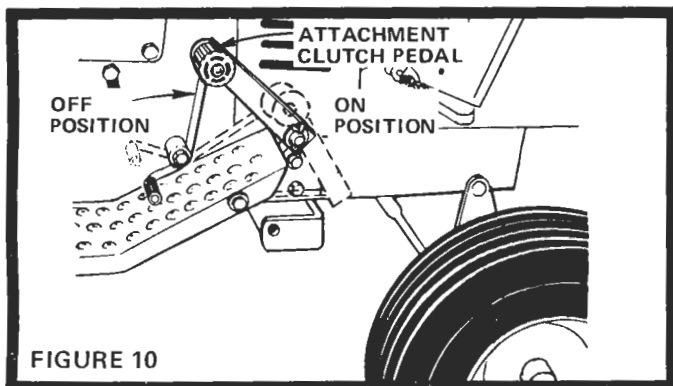
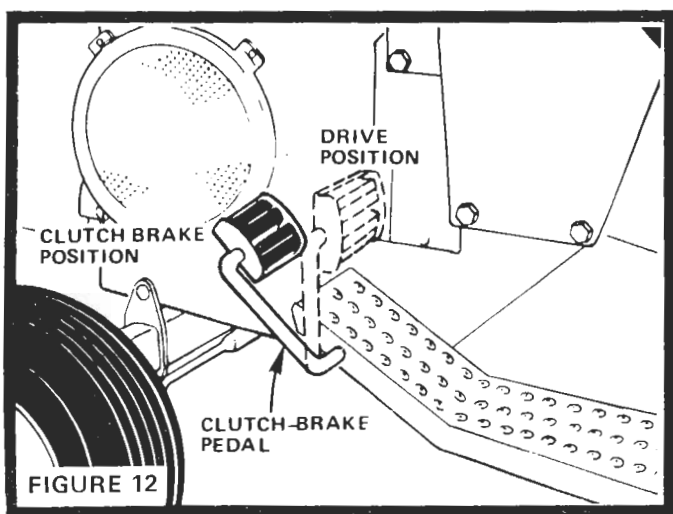

FIGURE 10
FIGURE 12
2. Place Attachment Clutch Pedal in "OFF" position (Fig.10).
5. Push Clutch-Brake Pedal into brake position (Fig. 12).
2. Push Clutch-Brake Pedal down firmly to unlock Parking Brake and hold it in Brake position (Fig. 12).
THIS TRACTOR IS EQUIPPED WITH SAFETY SWITCHES TO PREVENT STARTING OF THE TRACTOR ENGINE WHILE THE ATTACHMENT CLUTCH PEDAL IS IN THE "ON" POSITION (FIG. 10) AND THE CLUTCH BRAKE PEDAL IS IN DRIVE POSITION (FIG. 12).